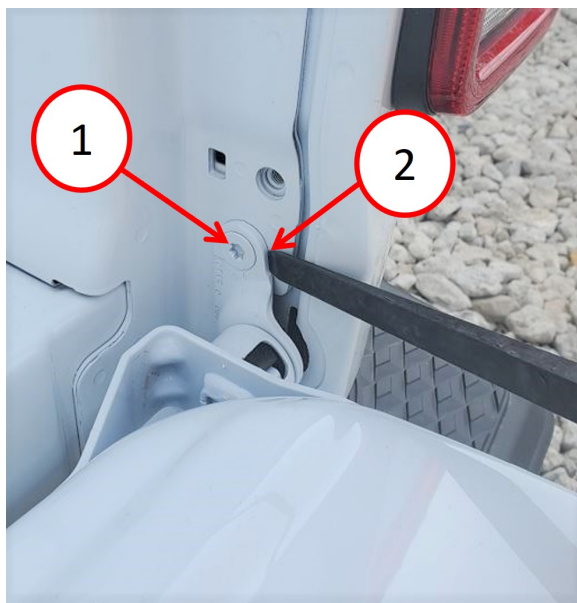

Fig. 3
- Using a T50 Torx bit, loosen but do not remove the right side pivot cup bolt (Fig. 3) .
- Using a trim stick and rubber mallet, tap and push the right side pivot cup assembly forward towards the front of the cargo bed (Fig. 3) .
- Tighten the right side pivot cup bolt (Fig. 3) to 65 N·m (48 ft. lbs.).